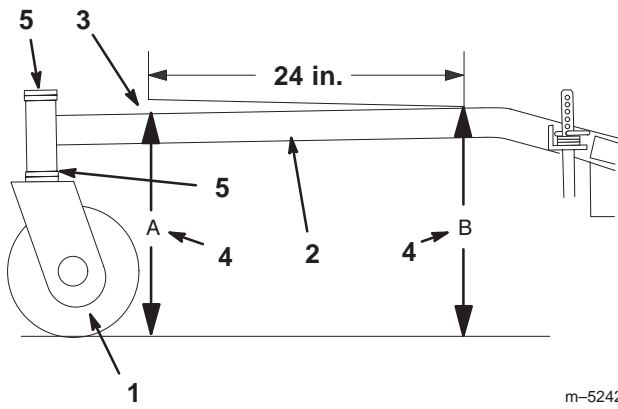

Figure 48
1. Measure out 24 inches on the carrier frame (Fig. 48).
2. Measure carrier frame height at location "A" (Fig. 48).
3. Measure carrier frame height at location "B" (Fig. 48).
4. The height at location "A" must be a 1/4–3/8 in. lower than location "B" (Fig. 48).
5. If the carrier frame is not correct, move caster spacers to make it a 1/4–3/8 in. pitch (Fig. 48). Move spacers from top or bottom to make the correct pitch.